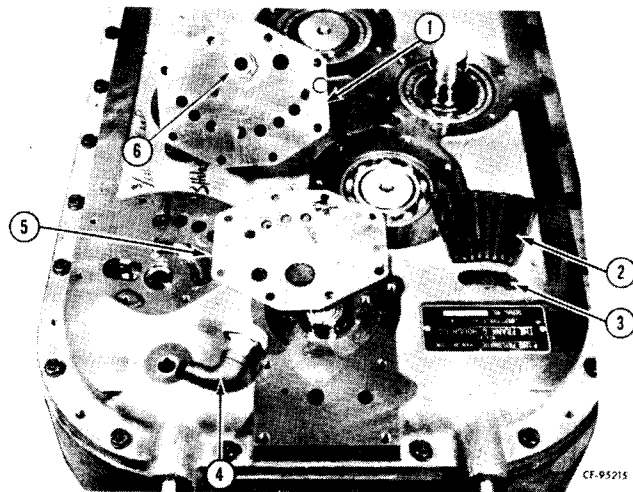

Figure 4-67
Position a new range selector valve gasket (5, Fig. 4-67) on transmission cover. Install new seal ring (6) on selector valve and coat with grease. Position valve on gasket, being careful not to break seal ring (6) during valve installation. Secure valve with cap screws (2) and lock washers (3). Tighten cap screws to recommended torque (refer to "SPECIAL TORQUES").